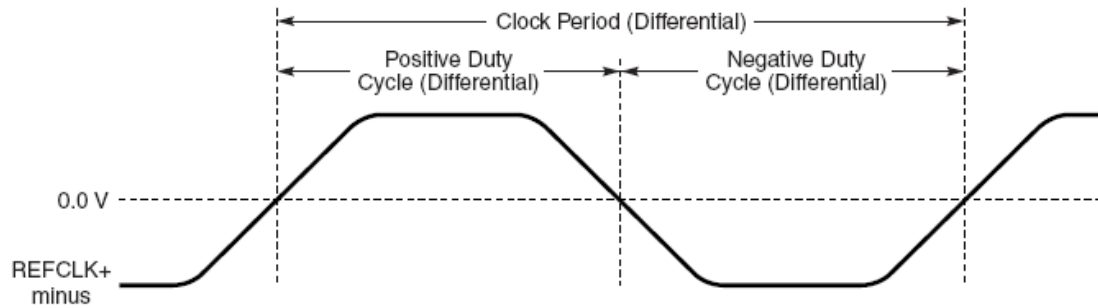

Figure 25. Period (from PCI Express CEM 1.1 specification)
**Note:** Defined as the absolute minimum or maximum instantaneous period. This includes cycle-to-cycle jitter, relative PPM tolerance, and spread spectrum modulation. See Figure 25 of the PCI-Express CEM Specification, Rev 1.1.